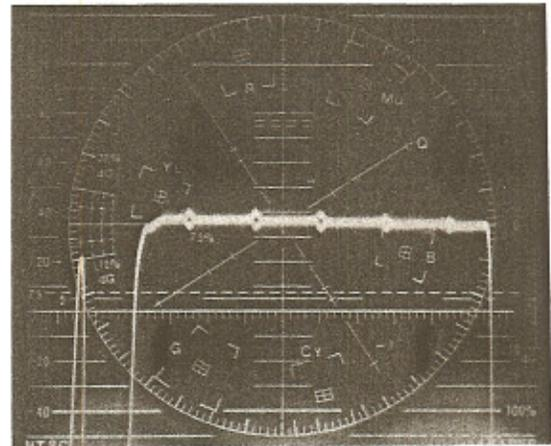

Figure 5-14
- For measuring DG of 2% or less Press the WFM and R-Y buttons at the same time under condition b). Then, the instrument will enter the DG mode. Figure 5-14 shows an example of the waveform.